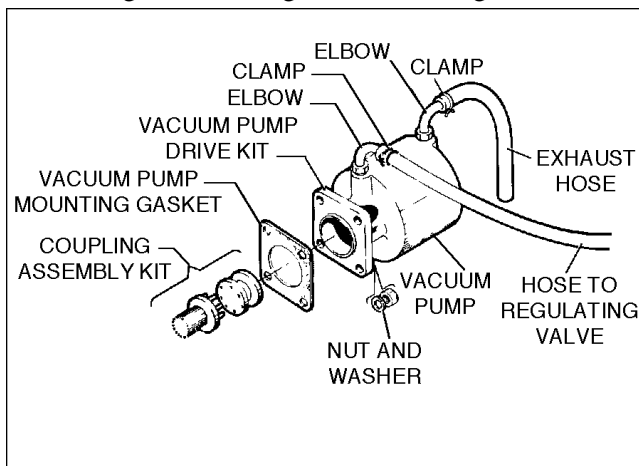

Figure 10-1. PA-28-151, Warrior and PA-28-161, Warrior II Vacuum Pump
10-17. REMOVAL AND INSTALLATION OF ENGINE DRIVEN VACUUM PUMP. (Refer to Figures 10-1 and 10-2)
- a. To remove *engine driven* vacuum pump. (Refer to Figures 10-1 and 10-2.):
- b. Installation of *engine driven* vacuum pump. (Refer to Figures 10-1 and 10-2.):